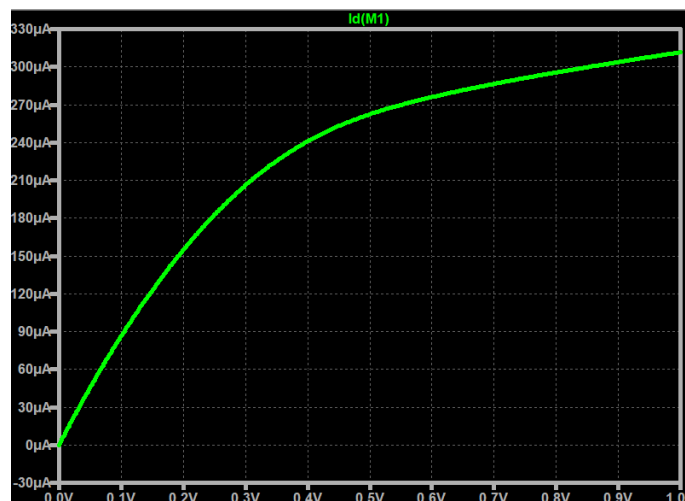

Figure 2.3 Short-channel NMOS IDS vs. VDS with VGS = 0V
- b. You should be able to get Figure 2.3. This plot tells us how the I_{DS} changes with varying V_{DS} and fixed V_{GS} . The background was changed to black for clarity.
Let's simulate the PMOS transistor and re-produce Figures 2.3 and 2.4. Do the following: